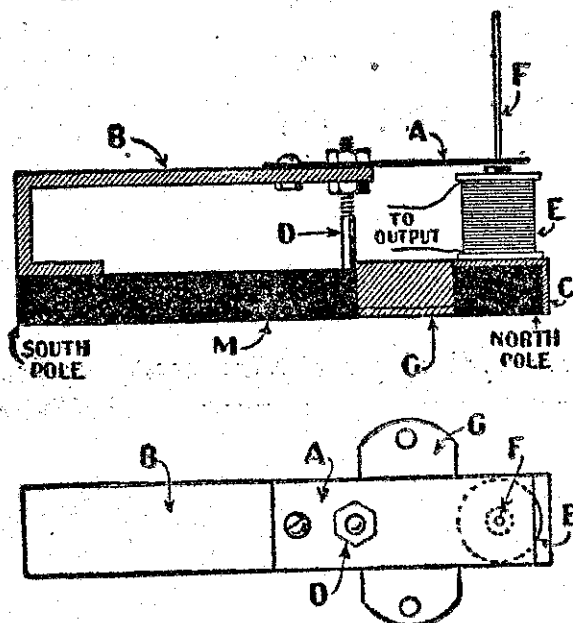

Fig. 1
After the directions given in the above paragraphs have been followed out, the various parts have been prepared and the unit may be assembled. In Fig. 1 the mechanical details of the completed unit are shown. As the magnet is hard and cannot be drilled, the various parts must be soldered in place. The $2\frac{1}{2}$ -inch piece of flexible iron strip (A) serves as the armature and is fastened to section B as illustrated. Also holes must be drilled in A and B for the adjustment screw (D). Now proceed by soldering the various parts to the magnet and the driving rod (F) to the armature.